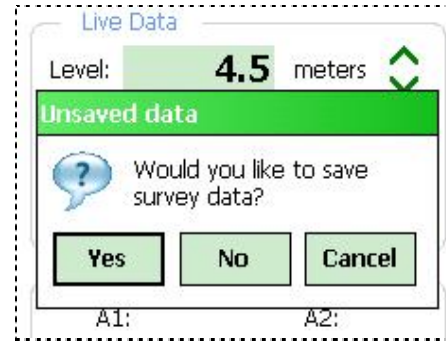

Figure 30 - Unsaved Data prompt
- At any point you can scroll the 'Level' using the green up and down arrow buttons on the screen and view data stored and checksums (lower half of the screen). When done taking readings, press "**ok**" (top-right corner of the screen). You will be given the option to save the readings to a file (see Figure 30).
9. When done taking readings, press “ok” (top-right corner of the screen). You will be given the option to save the readings to a file (see Figure 30).
10. Even if “No” (see Figure 30) is selected, the readings will not be lost and can be restored later using the “File→Delete/Restore” menu option from the main screen.
11. If “Yes” (see Figure 30) is selected, then another dialog box will be displayed giving the choice of saving with the auto-increment suffix on the standard filename (see Figure 31). Selecting “Yes” again causes the save operation to be carried out using a filename of the form: